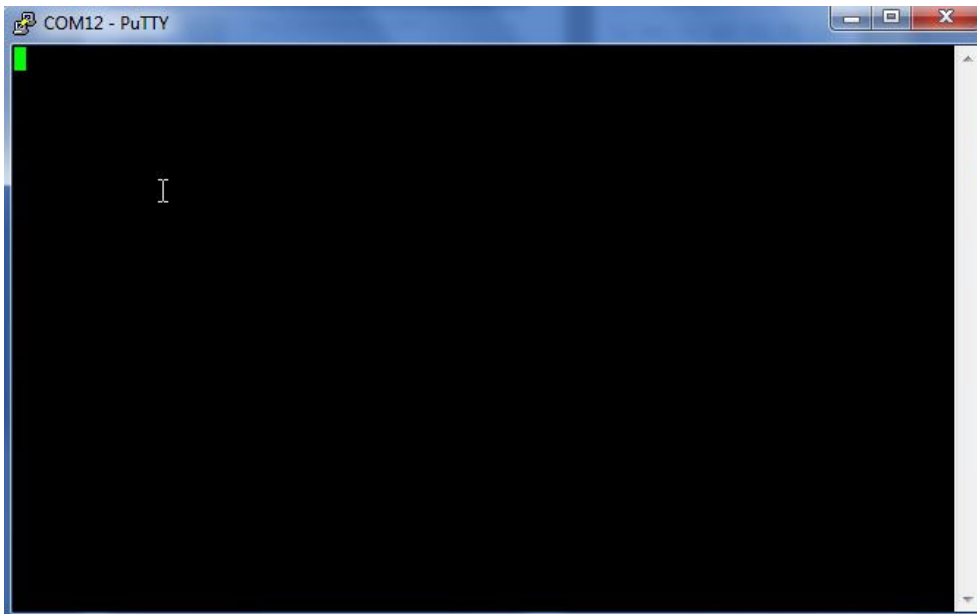

Figure 4: Terminal Screenshot
- (f) Click **Open**. The window in Figure 4 should appear, verifying that connection has been established. If no connection error occurred, press the **Enter** key once, and the window will update to display the screen shown in Figure 5. If a connection error occurs, you may see a screen like Figure 6. Make sure you have an error-free connection.